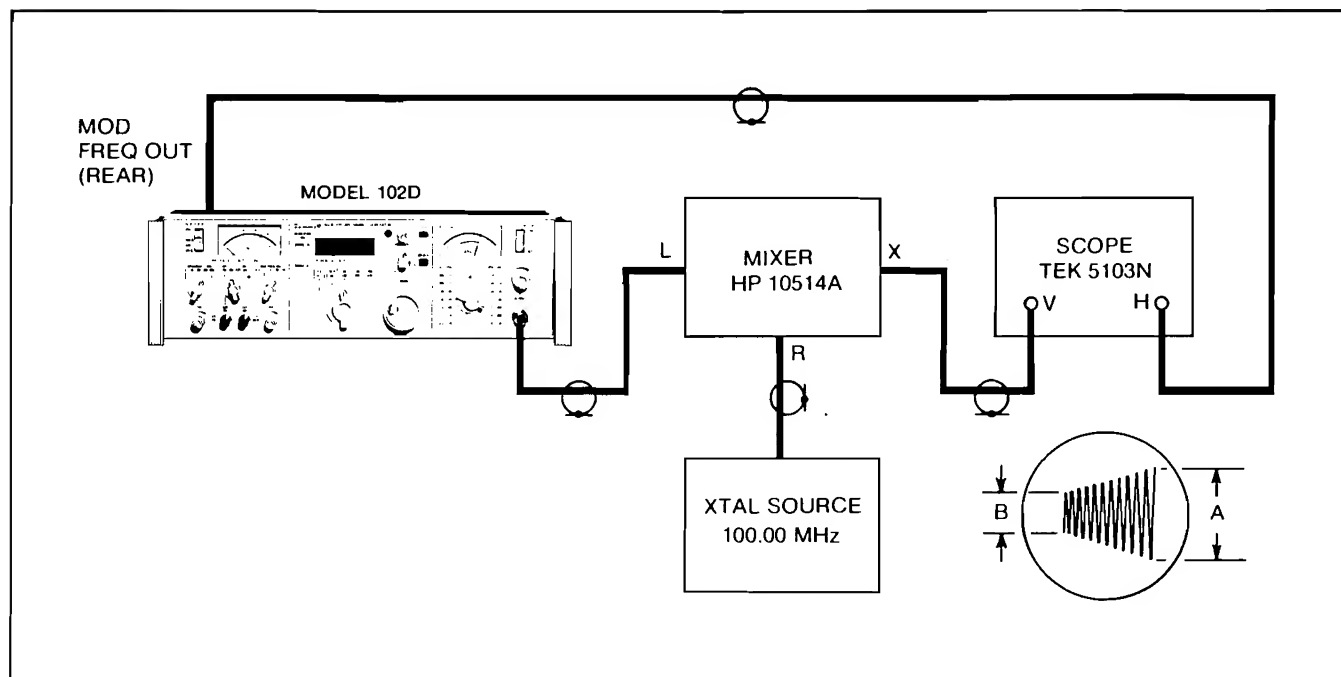

Figure 4-4 AM Calibration, Test Setup
a. Connect the Model 102D and the test equipment as shown in Figure 4-4.
c. Adjust the AM control as required to produce a trapezoid with an A dimension (Figure 4-4) of 8 divisions on the oscilloscope display and a B dimension of 2.65 divisions.